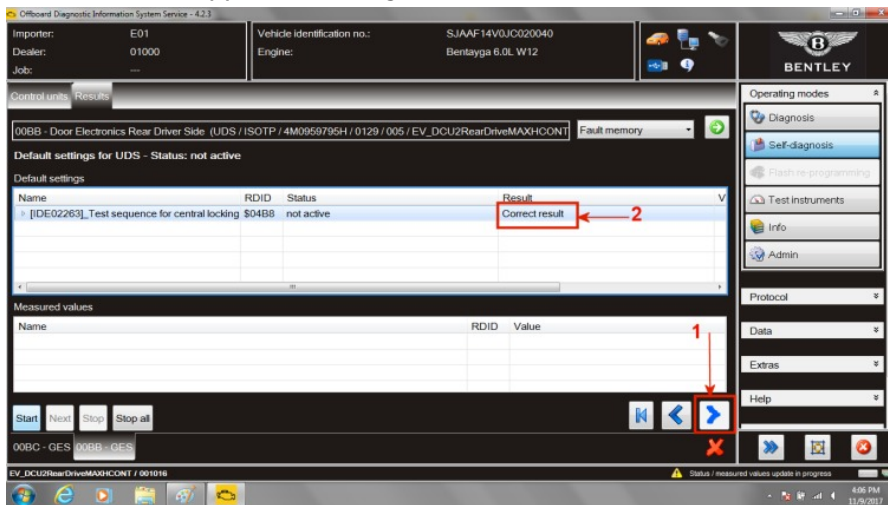

Figure 12
23. Select forward arrow (1) to initiate test. Locking mechanism for that door will sequence once sequenced *Correct result* will be displayed (2) (see Figure 12)